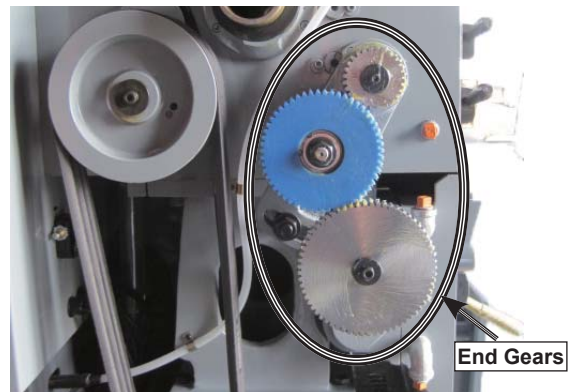

Figure 83. Location of end gears that require grease.
The end gears, shown in Figure 83, should always have a thin coat of heavy grease to reduce the minimize/prevent corrosion, noise, and wear. Care must be taken to avoid over-greasing because excess grease may be flung onto the V-belts, which will reduce optimal power transmission from the motor.
2. Remove the headstock side cover and all the end gears shown in Figure 83.